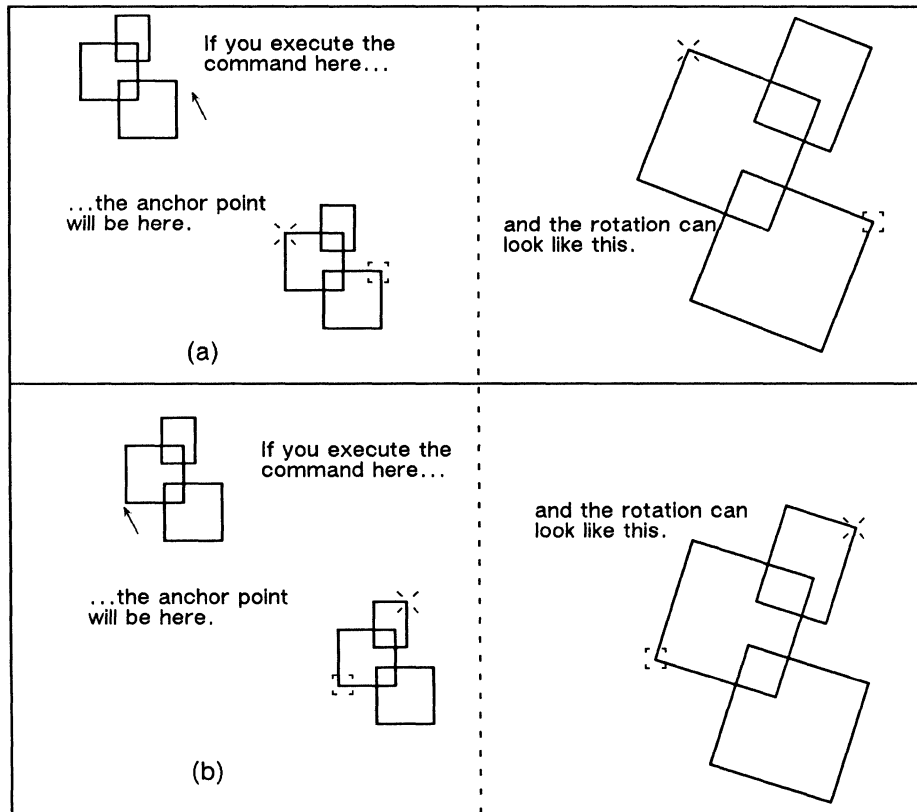

Figure 21-24. Anchor points and Rotate Magnified
**Rotate Magnified** allows you to change the angle and the size of the object at the same time. When you select the **Rotate Magnified** command, the diagramming system chooses as the active control point the control point closest to the mouse cursor *when you execute the command*, and chooses as the anchor point the control point farthest from the active control point. Figure 21-24 shows two objects and how choosing different anchor points affects rotation.